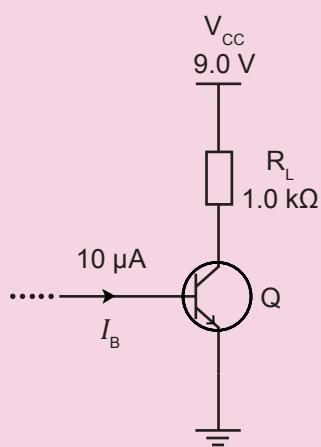

Figure 9.35
- For each circuit shown in Figures 9.35 and 9.36, determine if the $10 \mu\text{A}$ base current is enough to drive the BJT or Darlington pair into the saturation region. Use $\beta_{DC} = 100$ for each BJT.